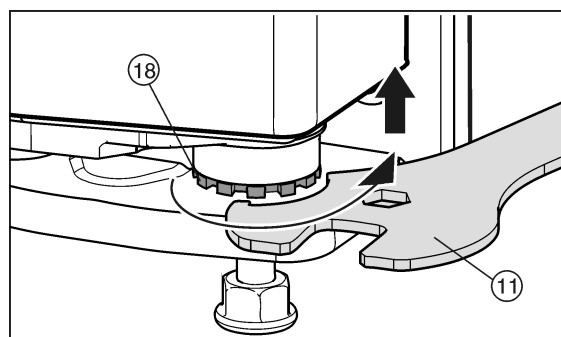

Fig. 30
- ▶ To lift the door unscrew the bearing pin *Fig. 30 (18)* clockwise using the supplied open-end wrench *Fig. 30 (11)*. The appliance is delivered from the factory with the bearing pin screwed in completely.